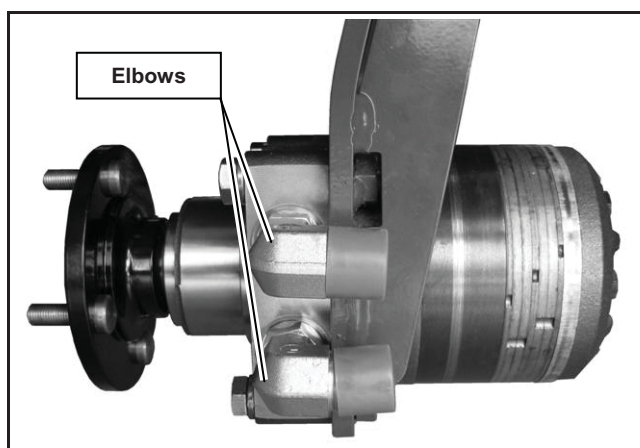

Figure 1
1. Block the front tyres and raise rear of mower (Figure 1).